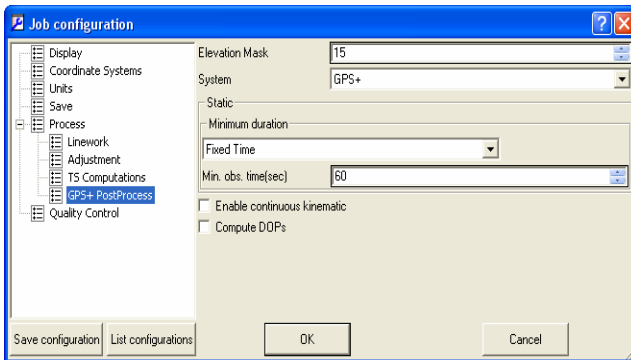

Figure 2-40. Job Configuration – GPS+ PostProcess
- The *GPS+ PostProcess* tab (Figure 2-40) sets the elevation mask, the navigation system, the minimum duration for station mode (Auto or Fixed Time), and enables/disables continuous kinematic.